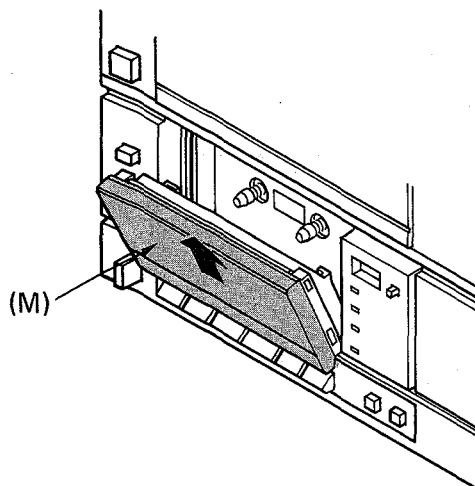

Fig. 5
1. Hold the both sides of Cassette Lid (M) and lift it by 1.5 cm (approx.). Then, remove it by pulling it toward you. (Fig. 5)